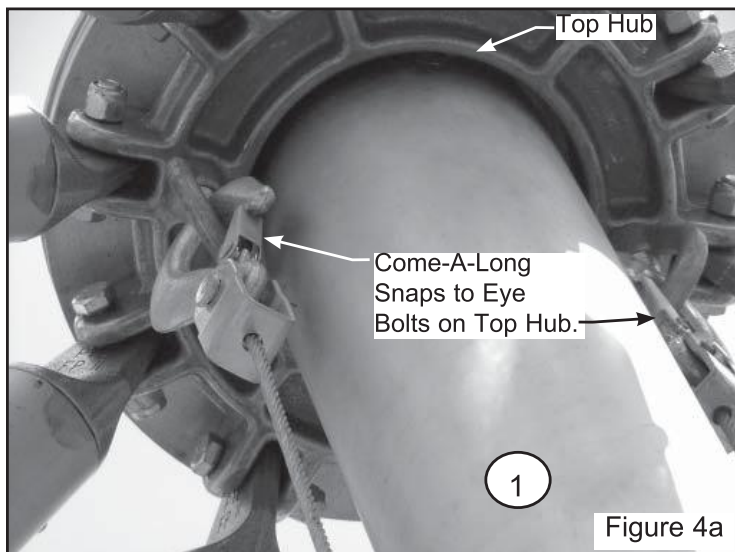
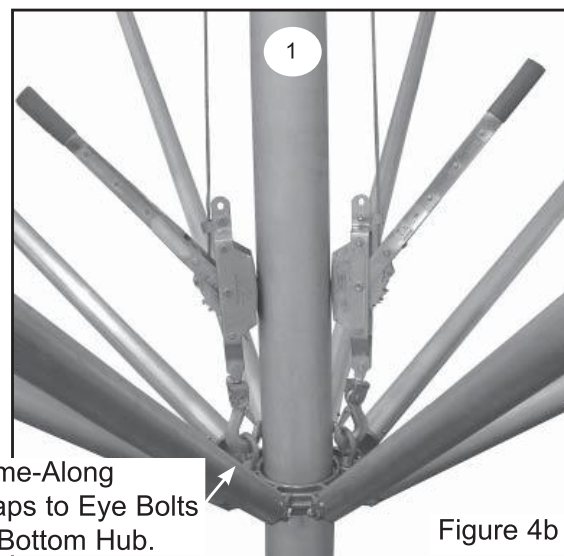

Figure 4a
Figure 4b
Snap (2) Ratchet Come-A-Longs (purchased separately) to the eyebolts on top hubs and to the eyebolts on bottom hub (**Figure 4a**). Ratchets should be set close to bottom hub (**Figure 4b**).